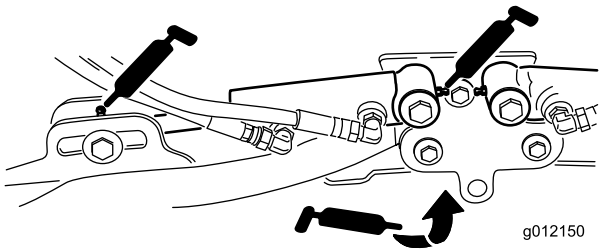

Figure 47
- Cutting-unit lift-arm cylinders (2 each) (Figure 47)
- Lift-arm pivots (1 each) (Figure 47)